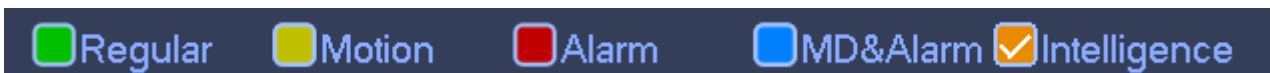

Figure 3-61
- Set record type. See Figure 3-61.